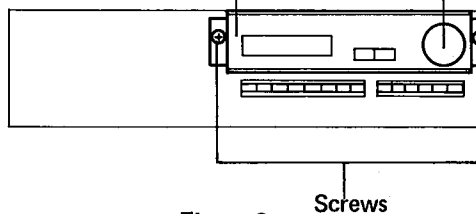

Figure 2
- (1) Remove a knob and two screws as shown in Figure 2.